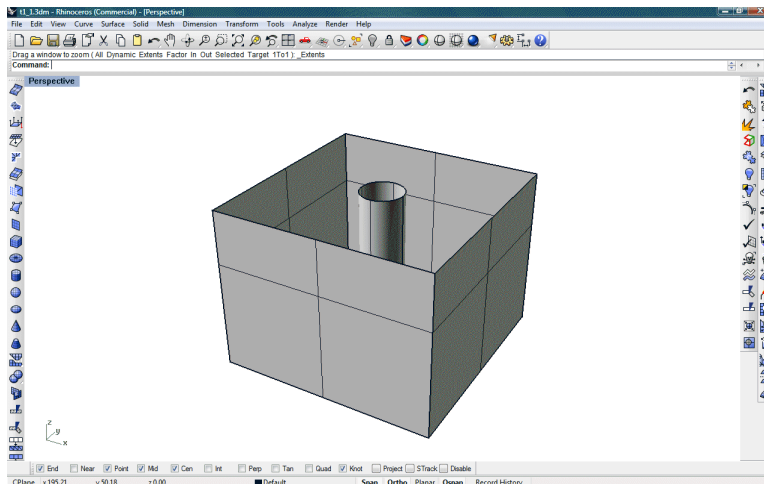

Figure 47: Perspective view of the lower part of the split model
25. Select the top part and **_Hide it**. Double-click the title of the viewport to return to a 4-viewport view and double-click the Perspective view port to maximize it (Figure 47).